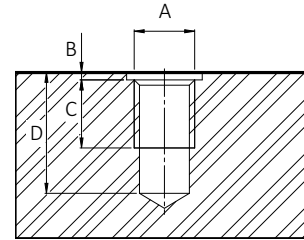

Figure 6: Mounting threads for non-Cool models
1. Mount the camera to the base using suitable M4 screws at 2.7 Nm maximum torque for a thread engagement (C) of 6 mm between screws and mounting threads, see Figure 6. For details, see your model's technical drawings.
1. Mount the camera to the base using suitable M4 screws at 3.4 Nm maximum torque for a thread engagement (C) of 7 mm between screws and mounting threads, see Figure 6. For details, see your model's technical drawings.